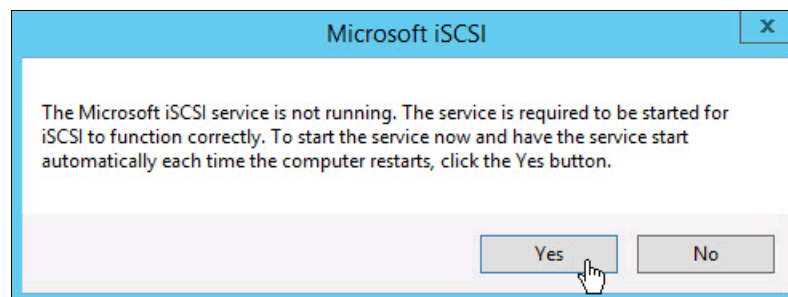

Figure 5-11 Automatic start of the iSCSI service
3. Confirm the automatic start of the iSCSI service (Figure 5-11).